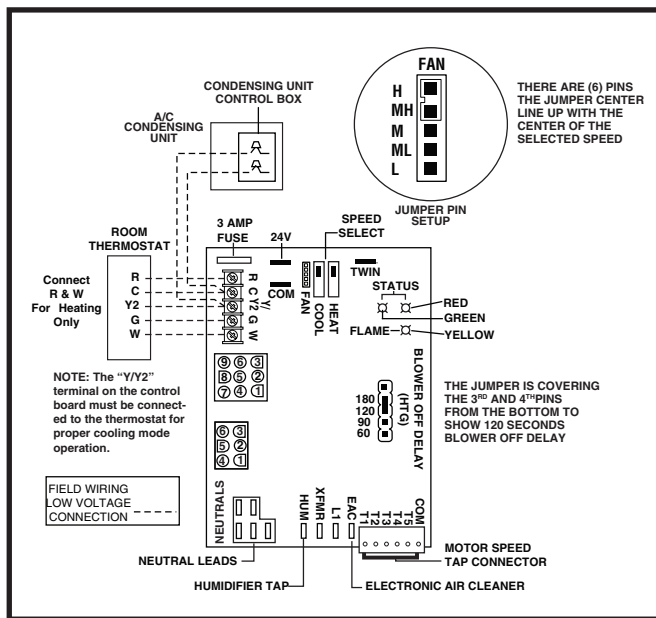

Figure 15. Nordyne Channel Control Board Low Voltage Field, Four-Wire Heating Application
- The thermostat must be installed according to the instructions supplied by the thermostat manufacturer. Low voltage connections (24 VAC) from the thermostat are wired to the terminal strip on the integrated control in the furnace. Figure 15 contain the proper connections for heating only (two-wire) and heating/cooling (four-wire) applications. Recommended minimum wire gauge for thermostat wiring is shown in Table 4.
There are 5 blower configurations for the fan, heating and cool speeds. The settings are L(LOW), ML(MEDIUM LOW), M(MEDIUM), MH(MEDIUM HIGH), and H(HIGH). Refer to the blower tables provided in this insulation instruction for the correct settings. To change the HEAT setting, locate the speed selects on the control board. For HEAT, move the selector switch up or down to the desired setting. For the FAN speed, there is jumper that will need to be moved. For instance, covering the last 2 pins(H and MH) will give a H(HIGH) fan setting. See Figure 15 for more detail.